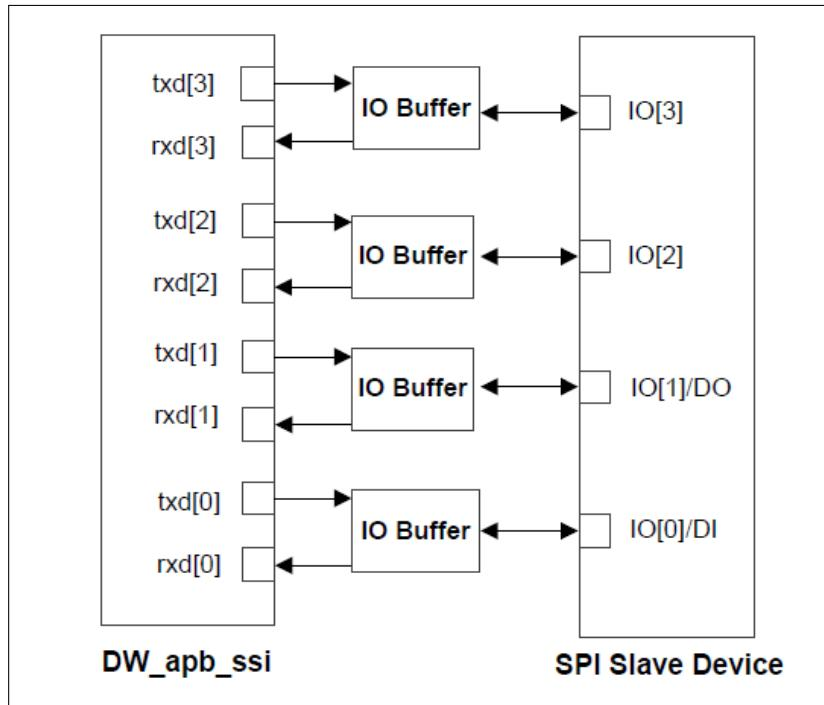

**Figure 19.34:** No Instruction and No Address READ Transfer
Figure 19.34 shows the timing diagram for such type of transfer. The value of N will be: 7 if CTRLR0.SPI\_FRF is set to 11, 3 if CTRLR0.SPI\_FRF is set to 10, and 1 if CTRLR0.SPI\_FRF is set to 01. To initiate this transfer, the software has to perform a dummy write in the data register (DR), DW\_apb\_ssi will wait for programmed wait cycles and then fetch the amount of data specified in NDF field.